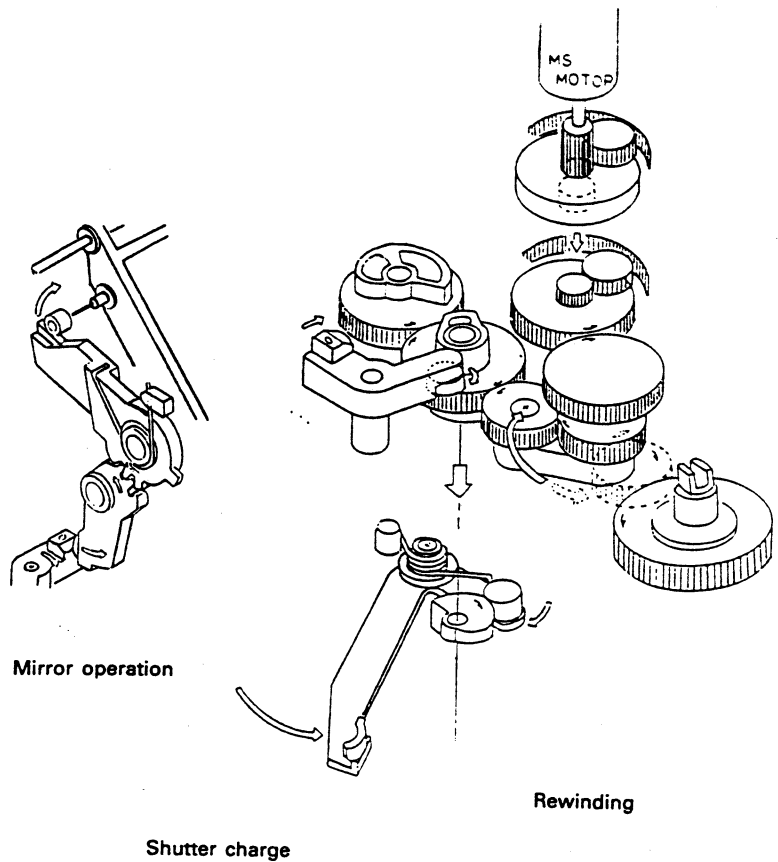

Fig. 5
② Mirror operation, Shutter charge, Rewinding (Fig. 5)